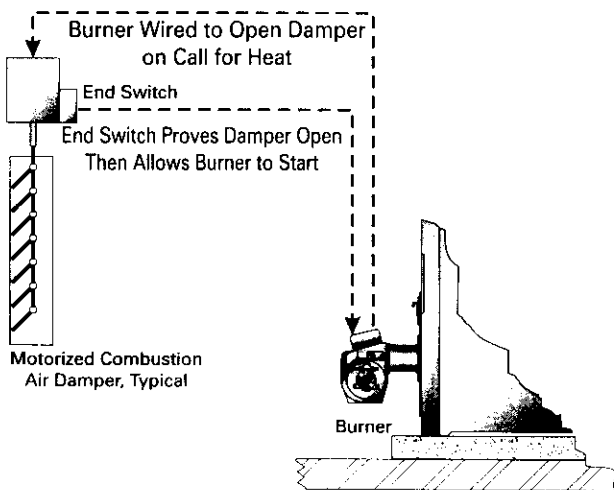

Figure 2: Motorized Vent Damper Interlock
- a) If motorized dampers are used on the combustion and ventilation air openings, wire them such that they must open when the boiler tries to operate. They must include a switch which prevents the boiler from operating if they do not open. See Figure 2.